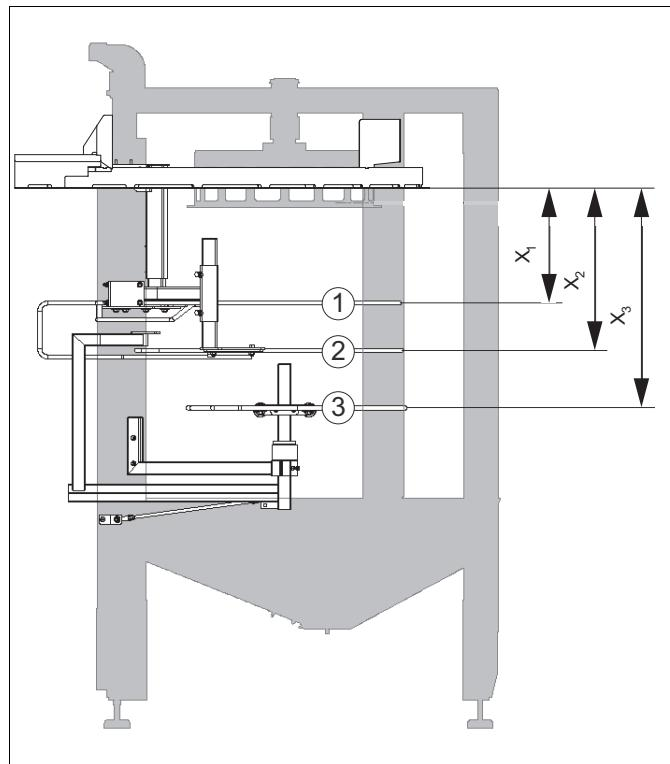

fig. 27 Setting the guides vertically
4. Tighten the bolts of height adjusters **5**, **7** and **8**. See fig. 27 and tab. 3.